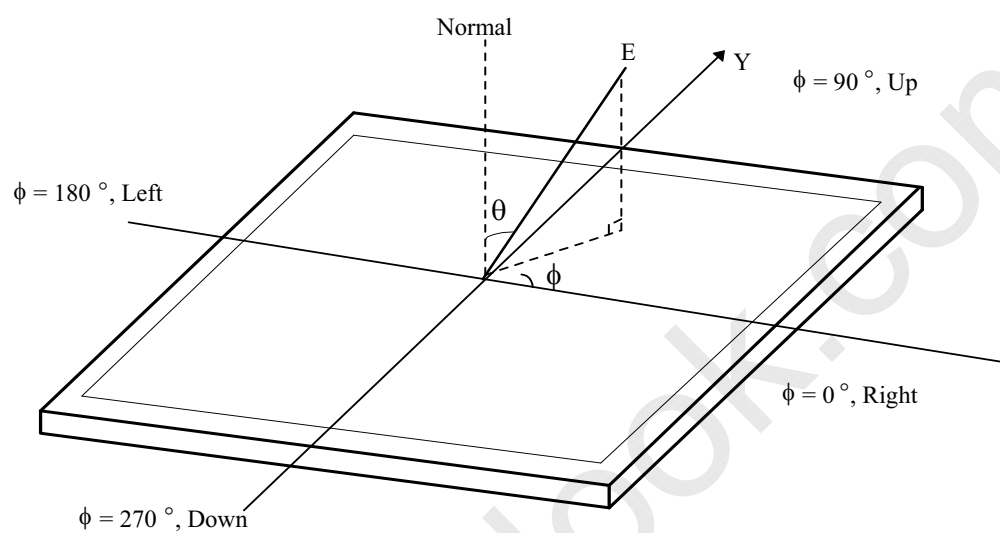

FIG. 12 Viewing Angle
- Viewing angle is the angle at which the contrast ratio is greater than 10. The angles are determined for the horizontal or x axis and the vertical or y axis with respect to the z axis which is normal to the LCD module surface. For more information, see the FIG. 12.